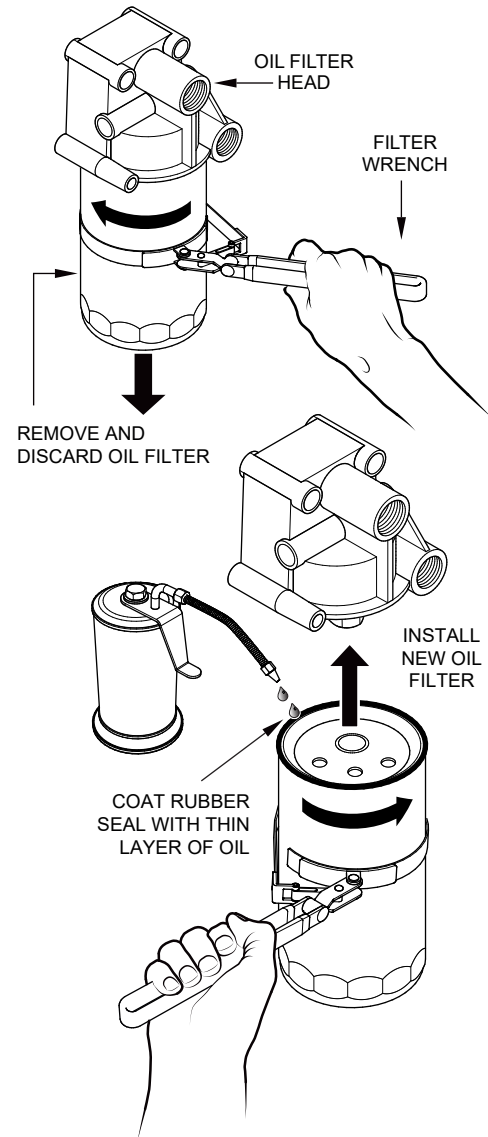

Figure 57. Engine Oil Filter Removal
1. Clean the area around the **oil filter head** (Figure 57).
2. Using an **oil filter wrench**, remove the **engine oil filter** (Figure 57).
3. Coat the rubber seal (gasket) surface of the new oil filter with clean 15W-40 engine oil (Figure 57).